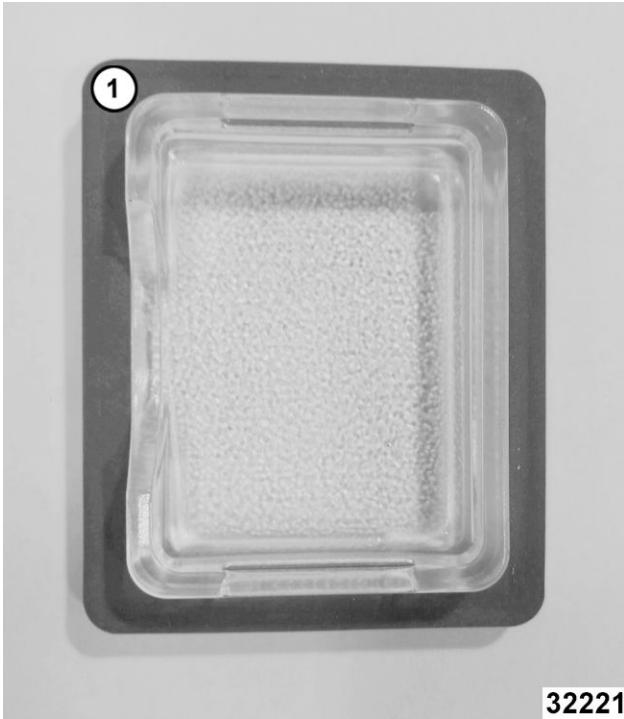

Fig. 54
**NOTE:** Verify gasket (1, Fig. 54) is flat on lamp cover and not damaged.